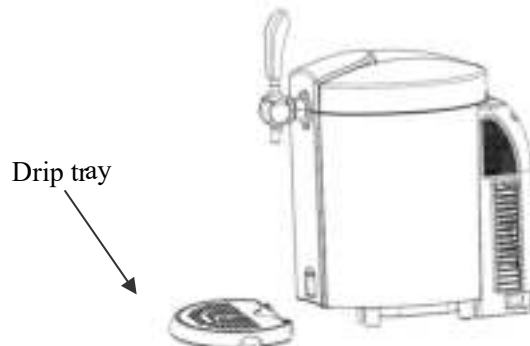

Figure 4
2. Install the tap handle connect the tap, make sure both end fit together perfectly. (Show as Figure 4)